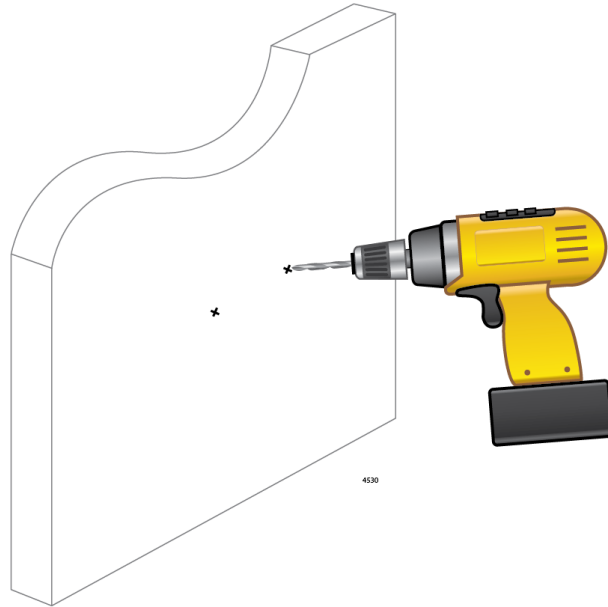

Figure 15. Pre-drilling the Holes on the Wall
2. Pre-drill two 3/16-inch holes where you just marked. See Figure 15 on page 36.